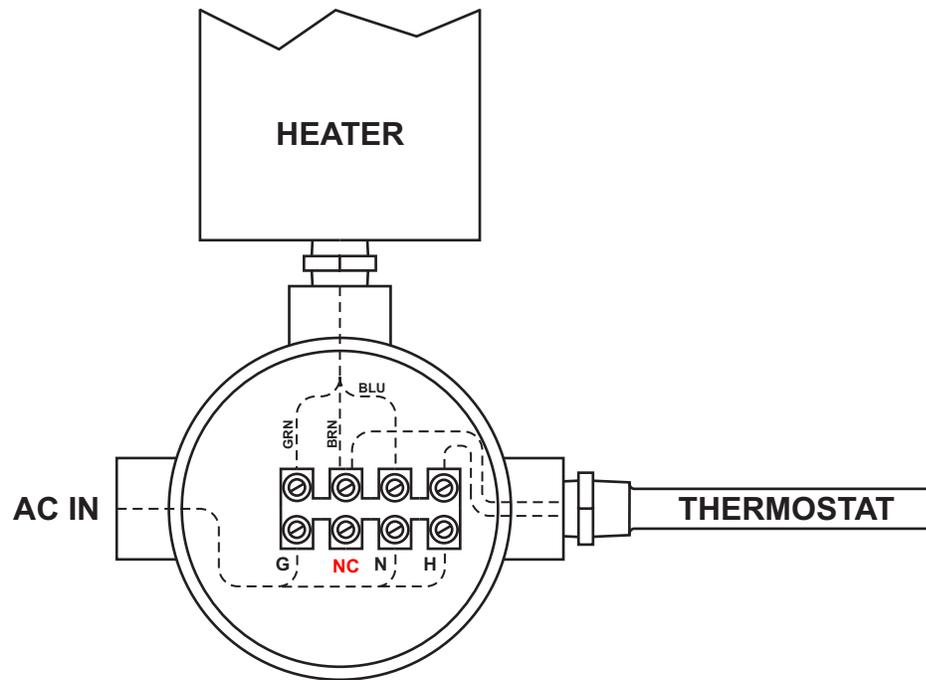

Figure 3-3 AC connection terminal block for enclosure heater
2. Open the power terminal box inside the heated enclosure, as shown in Figure 3-3.
6. Attach the neutral and hot wires to the power terminal by connecting the neutral wire to the terminal marked "N," the hot wire to the terminal marked "H," as shown in Figure 3-3.